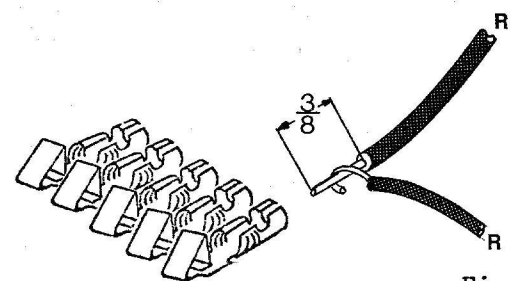

Figure 2
7. Strip off approximately $\frac{3}{8}$ " insulation from each of the secondary wires on both transformers. Now position the red wires with knots in them according to Figure 2. Wrap the bare end of one knotted red wire once around the other and solder them together. Heat shrink (if used) may be inserted now on the wires before crimping on the terminal pins.